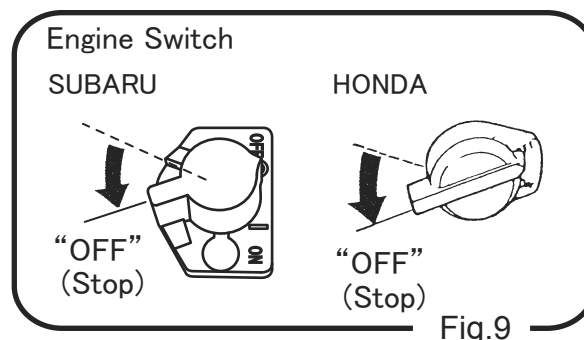

Fig.9
- 9-2 Turn the engine switch to the OFF position, then the engine stops. (Fig. 9)